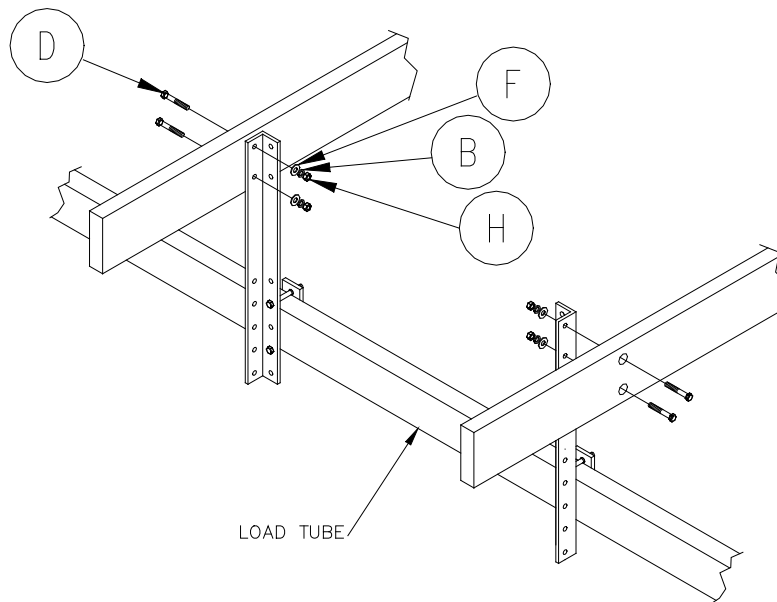

Figure 2-7.
4. **Refer to Figure 2-7.** Place two of the 2” x 6” x 16’ pressure treated wood into the Mounting angles. Ensure that the ends of the wood are even with one another.